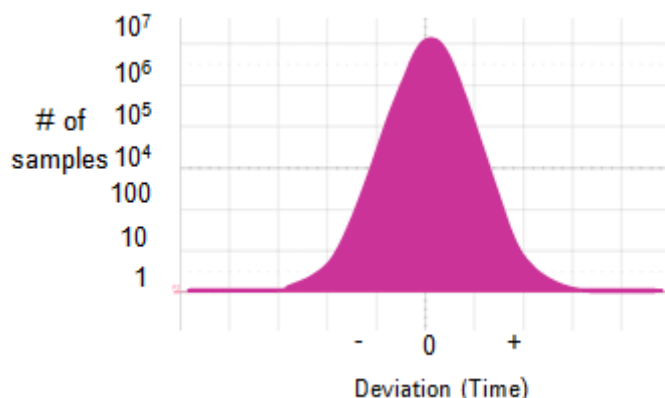

Figure 5. Typical TIE Histogram of Random Jitter
Non-deterministic jitter is composed primarily of random jitter components. As the name implies, the envelope of random jitter will have no recognizable pattern. Random jitter results from noise artifacts in the system. Non-deterministic jitter is un-bounded. As more samples are measured, the TIE histogram will show ever increasing peak jitter, occurring at small number of samples, with the process unending. The TIE histogram of pure random jitter (RJ) will have a true Gaussian deviation, as shown in Figure 5.